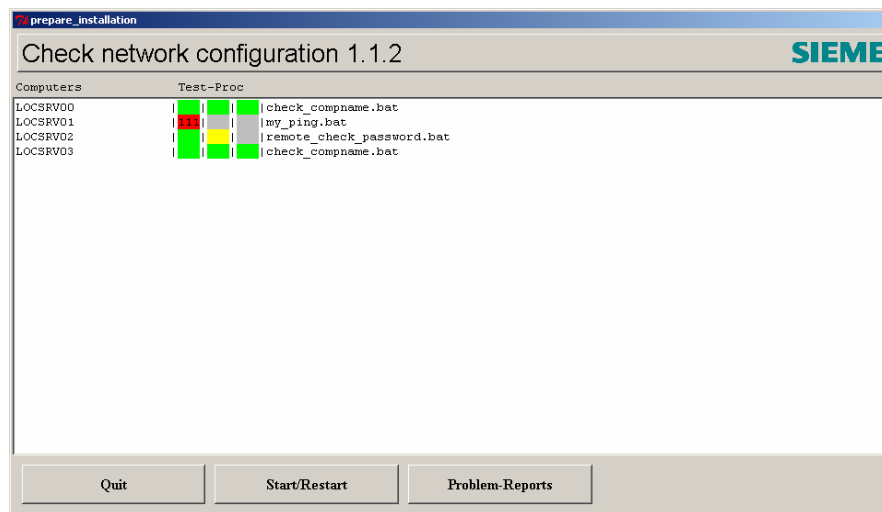

Figure 1-205. Connect Test Results
4. In case of test failure, consult Problem-Reports to solve the problem (Figure 1-205):
In Figure 1-205, the ping to LOCSR01 failed. For LOCSR02, the login as 'usps admin' is running and has not finished yet. The tests start parallel, but due to network connectivity, they can finish to different times.